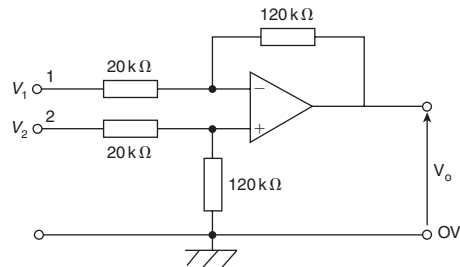

Figure RT5.1
- The power taken by a series inductive circuit when connected to a 100 V, 100 Hz supply is 250 W and the current is 5 A. Calculate (a) the resistance, (b) the impedance, (c) the reactance, (d) the power factor and (e) the phase angle between voltage and current. (9)
- A coil of resistance  $20\ \Omega$  and inductance 200 mH is connected in parallel with a  $4\ \mu\text{F}$  capacitor across a 50 V, variable frequency supply. Calculate (a) the resonant frequency, (b) the dynamic resistance, (c) the current at resonance and (d) the Q-factor at resonance. (10)
- A series circuit comprises a coil of resistance  $30\ \Omega$  and inductance 50 mH, and a 2500 pF capacitor. Determine the Q-factor of the circuit at resonance. (4)
- The winding of an electromagnet has an inductance of 110 mH and a resistance of  $5.5\ \Omega$ . When it is connected to a 110 V d.c. supply, calculate (a) the steady-state value of current flowing in the winding, (b) the time constant of the circuit, (c) the value of the induced e.m.f. after 0.01 s, (d) the time for the current to rise to 75 per cent of its final value and (e) the value of the current after 0.02 s. (11)
- A single-phase motor takes 30 A at a power factor of 0.65 lagging from a 300 V, 50 Hz supply. Calculate (a) the current taken by a capacitor connected in parallel with the motor to correct the power factor to unity and (b) the value of the supply current after power factor correction. (7)
- For the summing operational amplifier shown in Fig. RT5.1, determine the value of the output voltage,  $V_o$  (3)